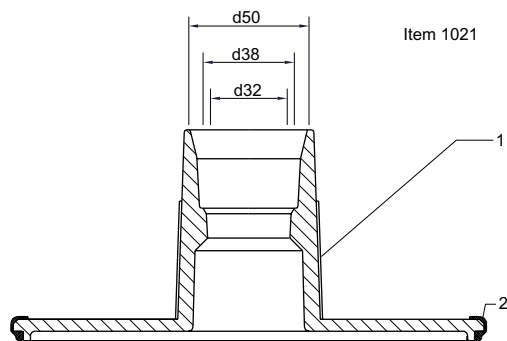

Fig. 13
2.6 Vacuum disc (Item 1021) (Fig 13) for V20 and VS30 skimmers